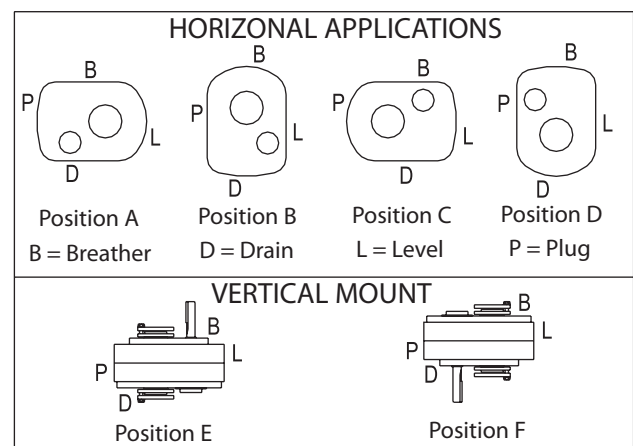

Figure 1 - Mounting Positions
2. Determine the running position of the reducer (see Fig. 1). Note that the reducer is supplied with either 6 plugs; 4 around the sides for horizontal installations and 1 on each face for vertical installations. These plugs must be arranged relative to the running positions as follows:
The running position of the reducer in a horizontal application is not limited to the four positions shown in Figure 1. However, if running position is over 20° either way from sketches, the oil level plug cannot be safely used to check the oil level, unless during the checking the torque arm is disconnected and the reducer is swung to within 20° in positions “B” and “D” or 5° in positions “A” and “C” of the positions shown in Figure 1. Because of the many possible positions of the reducer, it may be necessary or desirable to make special adaptations using the lubrication fitting holes furnished along with other standard pipe fittings, stand pipes and oil level gages as required.
① Refer to Figure 1 for mounting positions.
② U.S. Measure: 1 quart = 32 fluid ounces = .94646 liters.
Note: If reducer position is to vary from those shown in Figure 1 either more or less oil may be required. Consult Dodge Product Support.